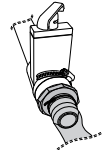

Figure 13.2h
4. Screw in the adapter with hose that was included in the equipment bay. Attach it to the quick drain, Figure 13.2h. Make sure to direct the hose to an area where the water will drain properly.